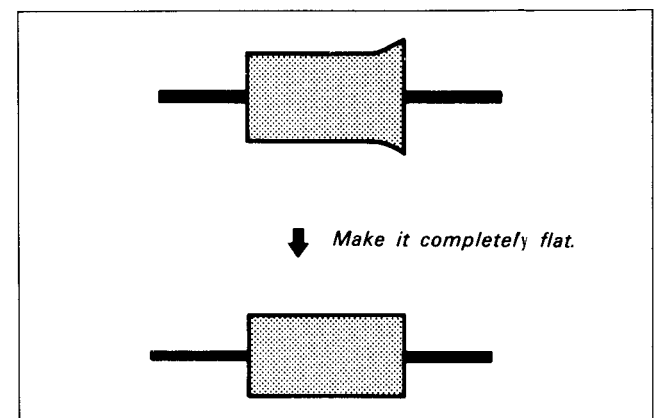

Fig. 7-78.
- 6) Turn No.4 guide so that waveform flat. (See Fig. 7-78.)